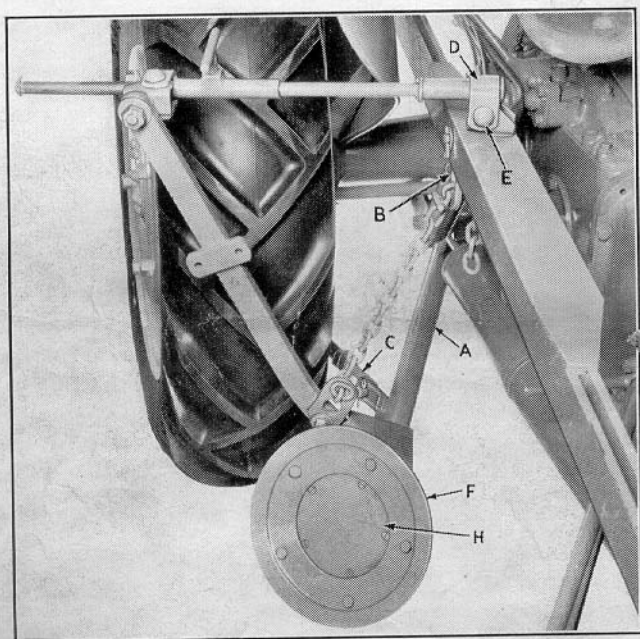

FIG. 6
5. If disc blade touches tractor radius rod at point E, shorten beam radius rod C shown in Fig. 6.
6. If disc blade touches tractor radius rod at point E, shorten beam radius rod C shown in Fig. 6.